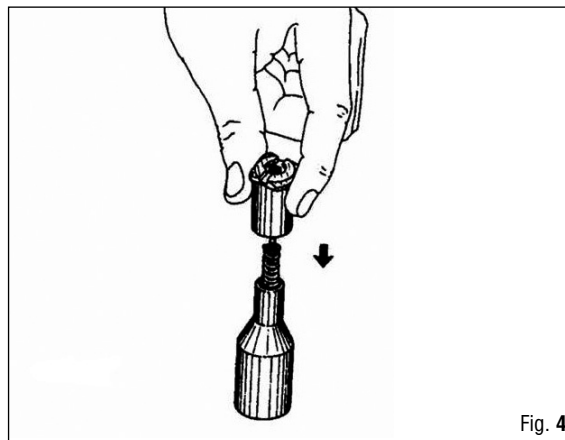

Fig. 4
20. Correctly reassemble the seat holder (92) snugly on the 2nd stage valve shaft (30) and position the rubber seat (47).
21. Place the 2nd stage poppet assembly and its spring (31) on the special tool (B-6).
22. Pressing gently, correctly insert the 2nd stage valve and its spring into the demand lever connector (91) (Fig. 4).
ROTATE THE DEMAND LEVER CONNECTOR (91) LEFT AND RIGHT IN ORDER TO CORRECTLY POSITION THE 2nd STAGE VALVE. (Fig. 4)